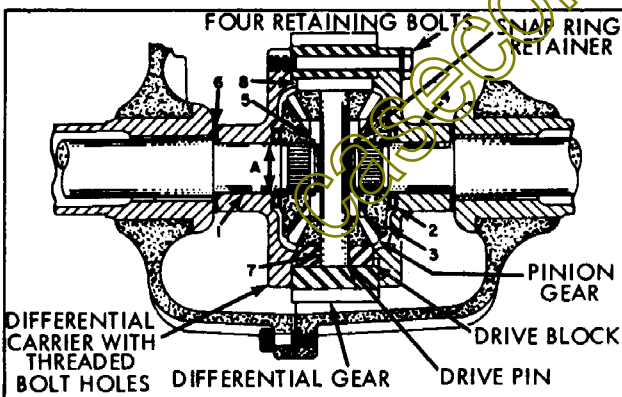

Figure 4-2
1. The differential carrier (Figure 4-2) is supported directly on the axle (1). Roller thrust bearings (2) are used between the bevel gear (3) and the differential carrier (4). This illustration shows axles with snap ring (5) retainers, some earlier production had rolled over axle ends to secure the assembly. Thrust washers (6) are used at the ends of the differential carriers and case/cover thrust face. Replace the differential carrier if worn in excess of .878 at point A.